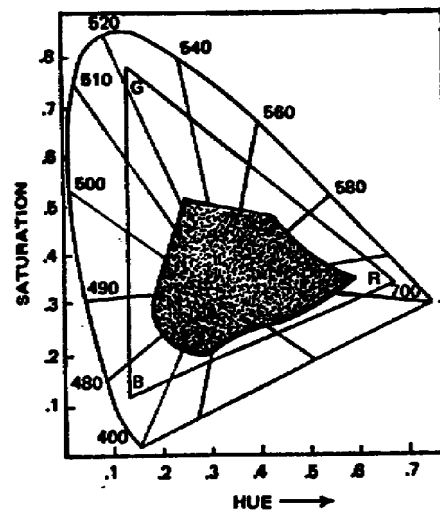

Figure 2-6. Chromaticity diagram
b. The chromaticity diagram of figure 2-6 is a standardized color map for the system of colorimetry used by the International Commission on Illumination.